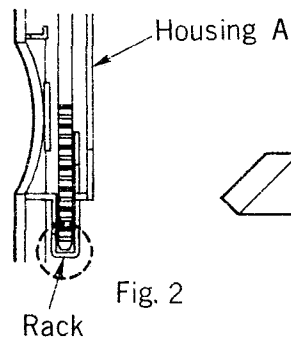

Fig. 2
2. Set the rack with the lowest position. (See Fig. 2)